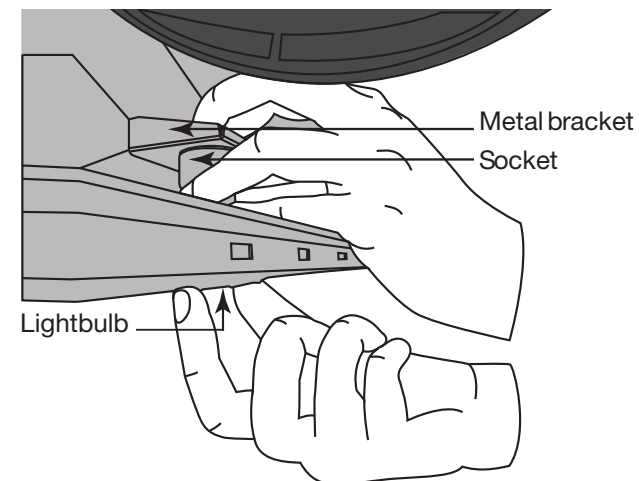

Figure 6
- 3 So as not to accidentally break the glass, gently place two fingers from second hand onto the surface of the light bulb. (See Figure 6) Gently turn the lightbulb counter clockwise to loosen and unlock lightbulb from socket. Once unlocked the lightbulb should come out freely.